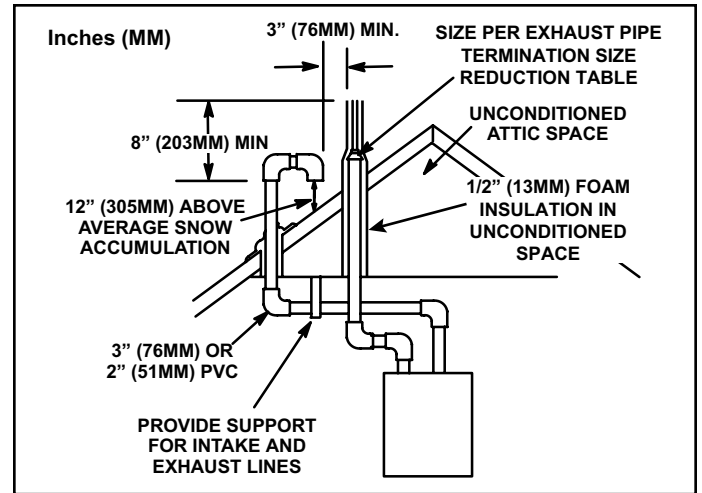

Figure 29. Direct Vent Roof Termination Kit (15F75 or 44J41)
Intake and exhaust pipes may be routed either horizontally through and outside wall or vertically through the roof. In attic or closet installations, vertical termination through the roof is preferred. Figure 29 through Figure 36 show typical terminations.
3. On roof terminations, the intake piping should terminate straight down using two 90° elbows (see Figure 29).